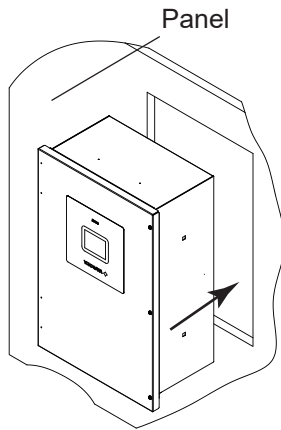

Figure 2.3
2. Mounting IR810G (Figure 2.3)